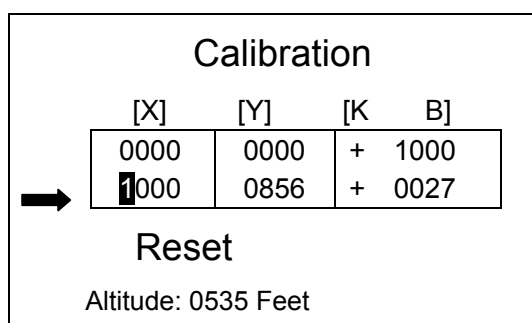

Figure 8 Calibration screen- 3
- 7) Move the cursor to the second row (Refer to Figure 8) and then press the **ENTER** keypad. Use  or  to select the element to be changed. When the element of the X column becomes highlighted, use  or  to change the number and press **ENTER** to confirm the change. Set the number as the concentration level of the standard gas concentration to be tested (e.g., 1000ppm). Then use **BACK** keypad to return to non-change screen with the cursor pointing at the second row.